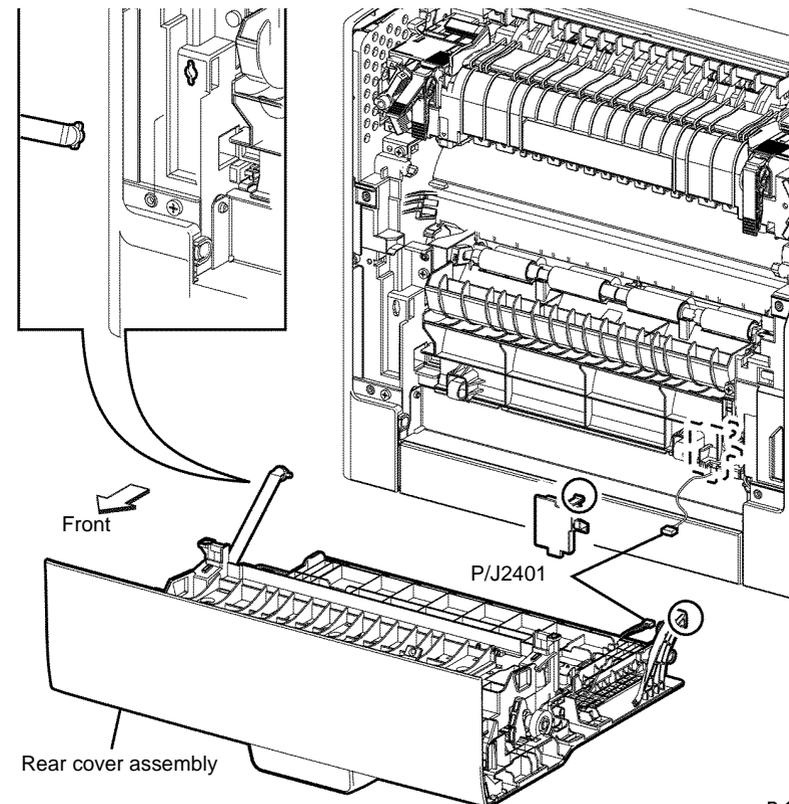

Figure 1 Rear cover assembly removal
3. Disconnect P/J2401 from the rear cover assembly, Figure 1.
4. Remove the stopper that fixes the rear cover assembly, by rotating the stopper in the arrowed direction, Figure 1.
5. Release the hook on the rear cover assembly by releasing one of the bosses from the hole on the printer. Remove the DTS out earth spring, while removing the rear cover assembly, Figure 1.